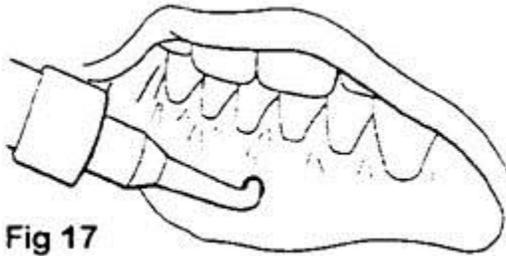

Fig 17
4. Light cure bond the male component into the denture (**Fig 17 & 18**); or mix a permanent self-curing resin and place a small amount in the recess of the denture, and around the top area of the metal cap.